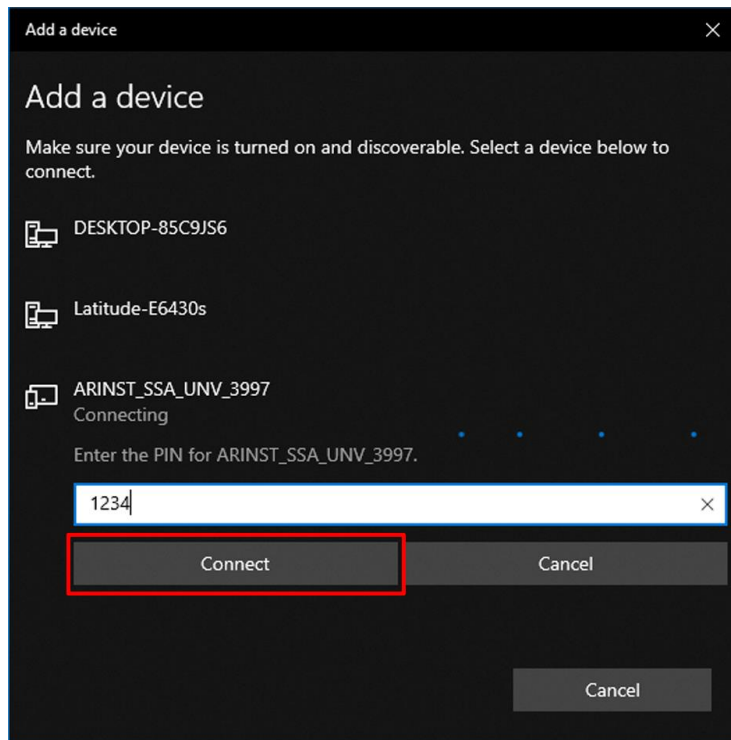

Figure A13 - Connecting the spectrum analyzer to a PC
4.5. Click on the name of your device that you want to connect to your PC using the Bluetooth communication protocol. Enter the PIN (1234) and click the **Connect** button (Figure A13). The spectrum analyzer will interface with your PC.
*In our example in Figure A13, the spectrum analyzer displayed as **ARINST_SSA_UNV_3997** is connected to the PC.*